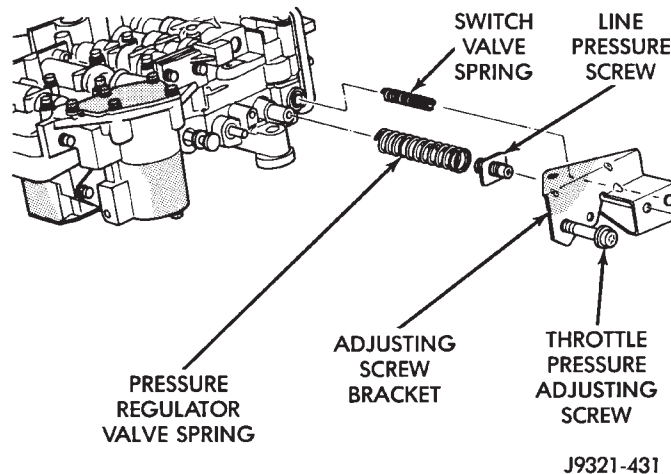

Fig. 56 Adjusting Screw Bracket And Spring
(21) Remove adjusting screw bracket, line pressure adjusting screw, pressure regulator valve spring and switch valve spring (Fig. 56). **Do not remove throttle pressure adjusting screw from bracket and do not disturb setting of either adjusting screw during removal.**